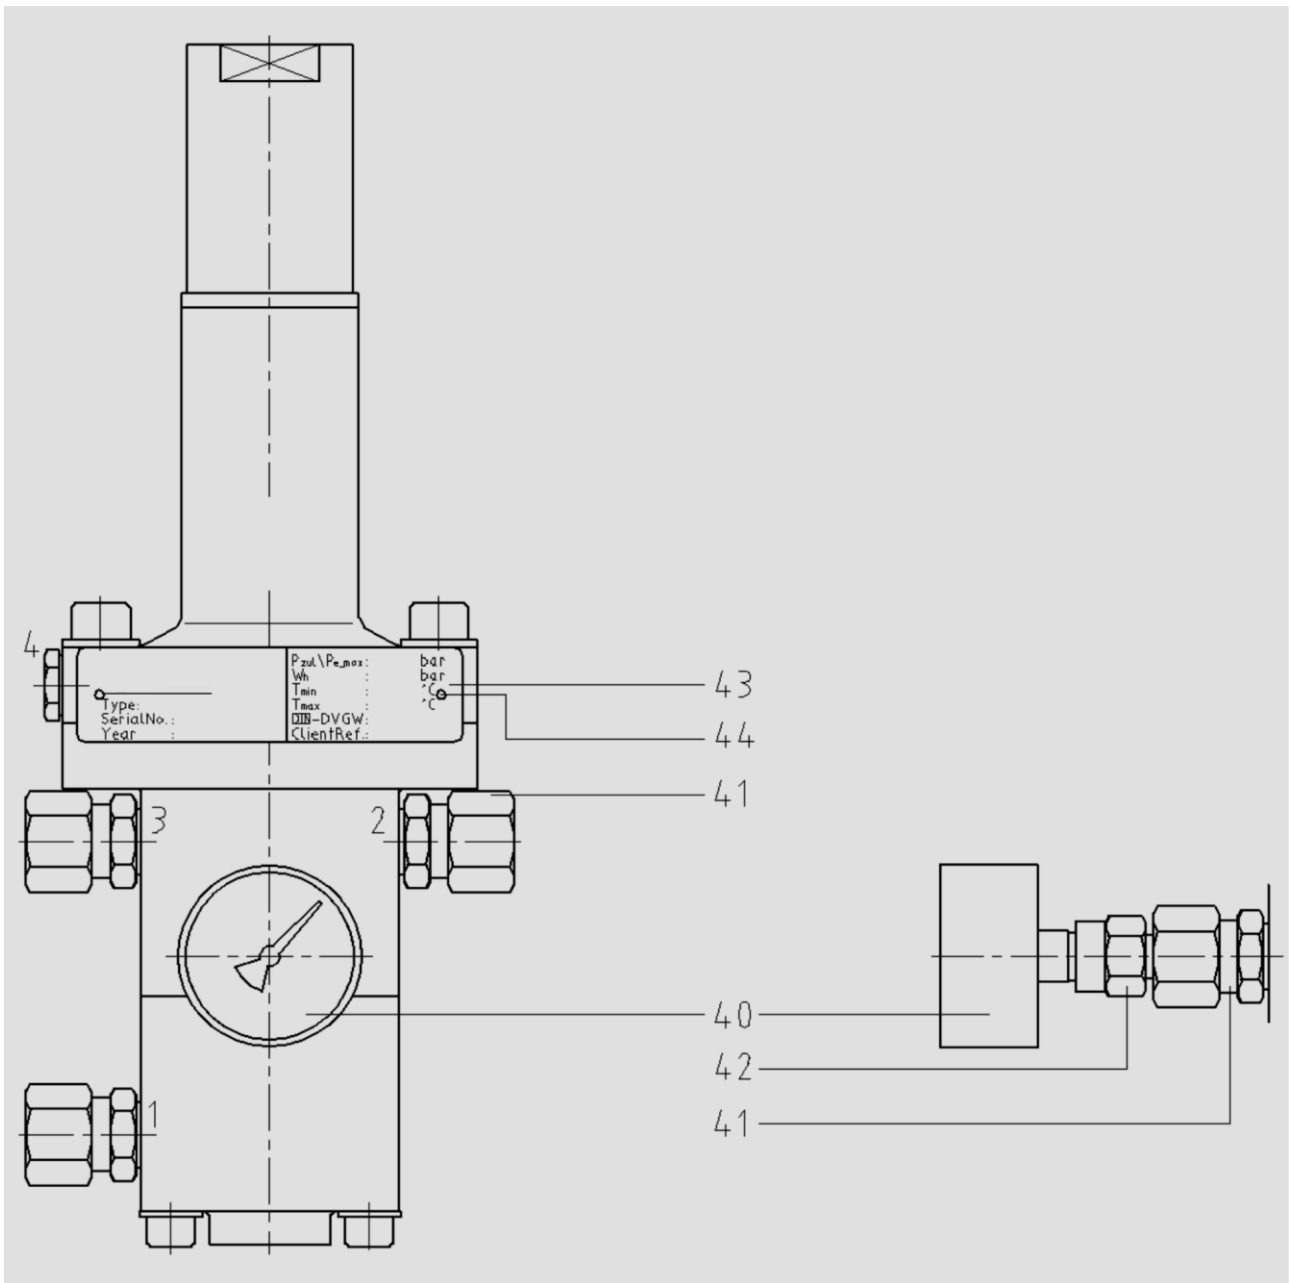

Figure 13: position numbers HON P095 continued
If a feeding line (instruments air or the medium itself) is available, an off-line tightness test can be done. This feeding line can then be connected to connection 1 of the pilot (see Figure 13: for pilot connections). Unscrew the closure nut and ensure that the adjusting screw is completely unscrewed (1).